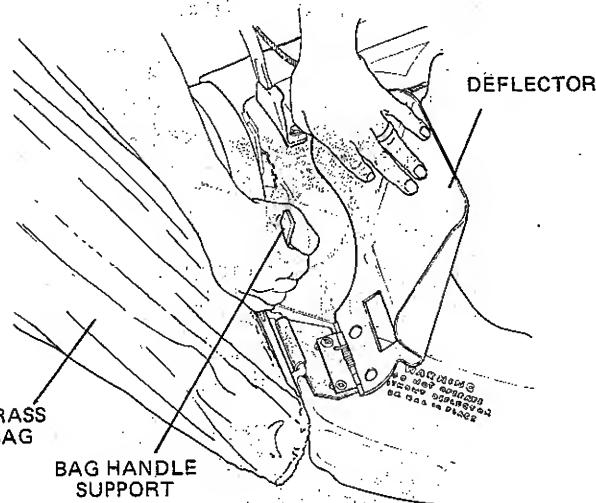

Figure 3
- Using bag support handle attach grass bag to clip as illustrated in Figure 3. If the grass bag is not to be used, mount deflector without the clip using the same attaching parts. Mount deflector with lockwashers and nuts under housing.